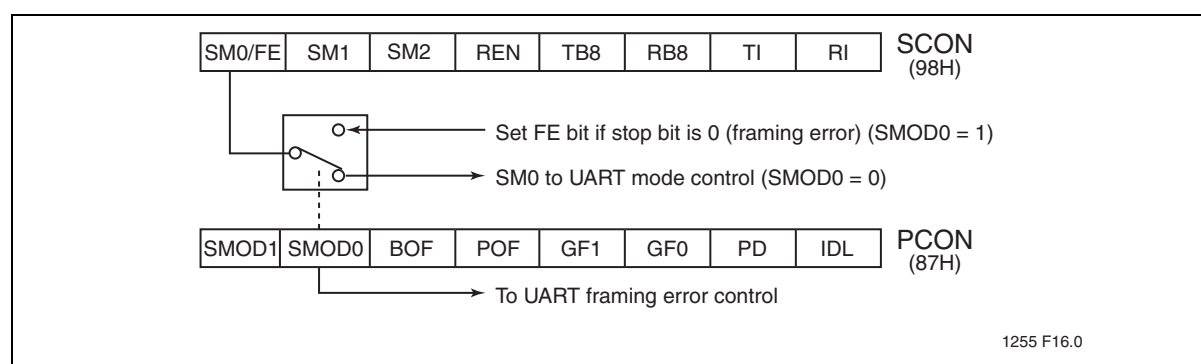
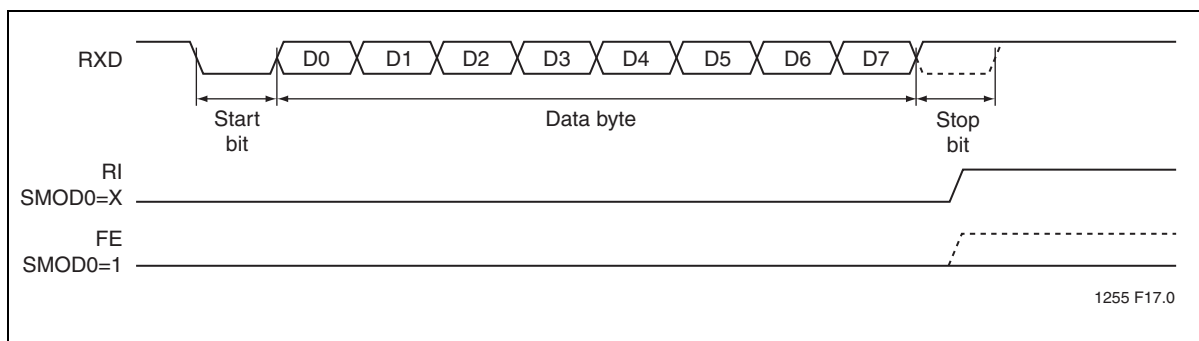
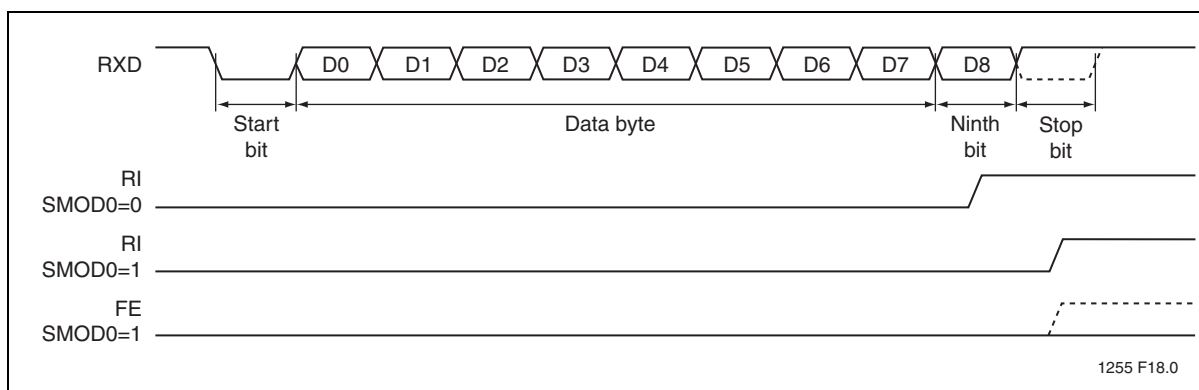

Figure 17:Framing Error Block Diagram
Figure 18:UART Timings in Mode 1
Figure 19:UART Timings in Modes 2 and 3
Framing Error Detection is selected by going to the PCON register and changing SMOD0 = 1 (see Figure 17). If a stop bit is missing, the Framing Error bit (FE) will be set. Software may examine the FE bit after each reception to check for data errors. After the FE bit has been set, it can only be cleared by software. Valid stop bits do not clear FE. When FE is enabled, RI rises on the stop bit, instead of the last data bit (see Figure 18 and Figure 19).